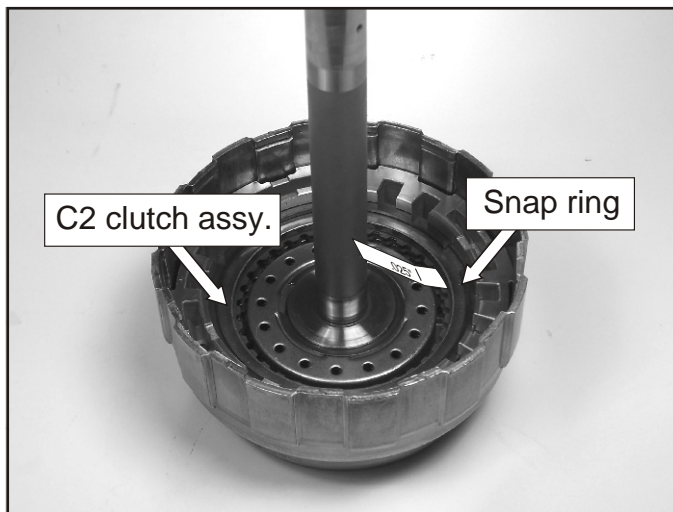
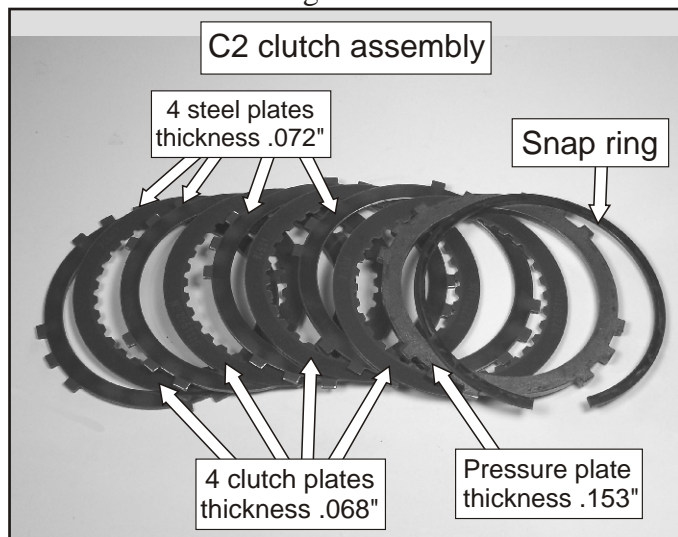

Figure 208
Figure 207
- 151. Install the C2 clutch assembly into the drum as shown in Figure 208. Use Figure 207 as an assembly guide. Install a .072" steel plate into drum first, then install the remaining C2 clutch plates and steels ending with the pressure plate and snap ring. Clutch clearance should be between .025" to .035."